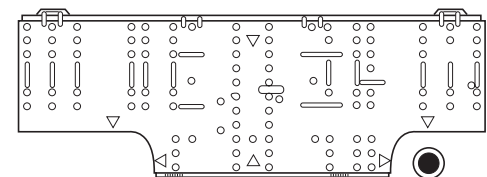

Fig. 3-116
- (1) Attach the rear panel to the wall with the 10 screws provided. (Fig. 3-116)